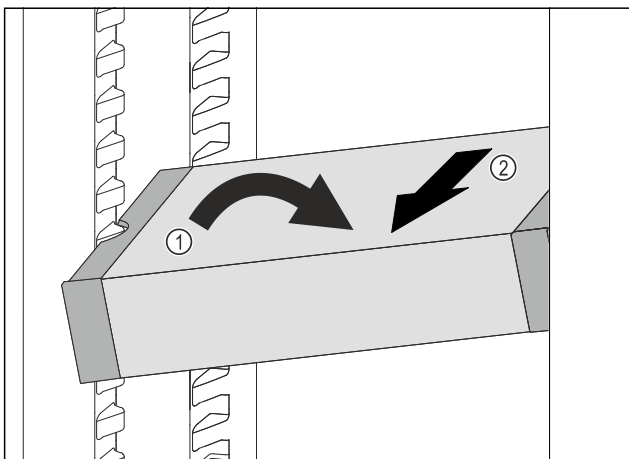

Fig. 56
- Set VarioSafe in refrigerator compartment at an angle. Fig. 56 (1)
- Take VarioSafe out to the front. Fig. 56 (2)